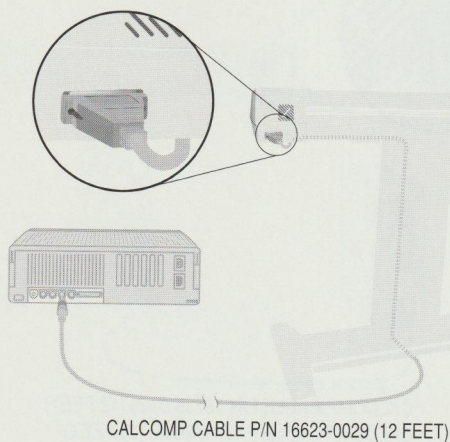

Figure 2-6. RS-232C (Serial Port) with Apple Macintosh II
- Apple Macintosh II (Figure 2-6)